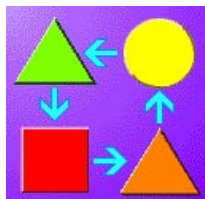

Figure 3-29
2. From the Preference menu select the **"USER INTERACTION"** icon. (Figure 3-29)